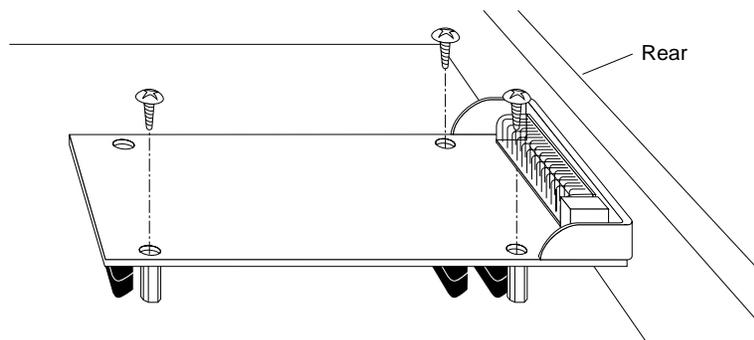

Figure 4-3 Removing the Screws from the Presenter 1280 Board
- Using a Phillips screwdriver, remove the three Phillips screws that connect the board to the graphics board, as shown in Figure 4-3.